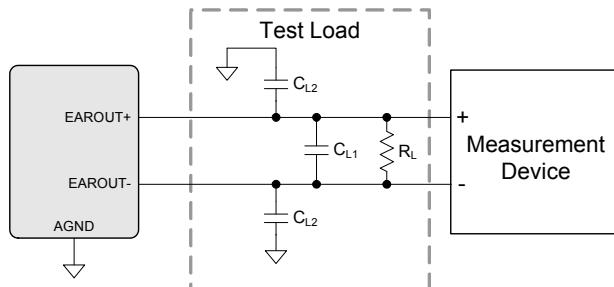
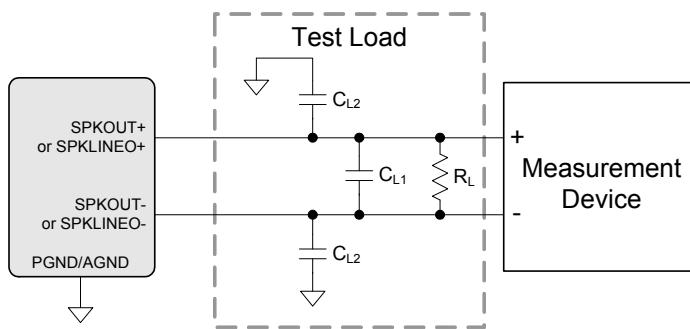

Figure 7. Ear Speaker Output Test Configuration
Figure 8. Speakerphone and Speakerphone Line Output Test Configuration
Test conditions (unless otherwise specified): Connections to the CS42L73 are shown in the "Typical Connection Diagram" on page 17; Input test signal is a 24-bit full-scale 997 Hz sine wave with 1 LSB of triangular PDF dither applied; GND = AGND = PGND = CPGND = DGND = 0 V; all voltages are with respect to ground (GND); VA = 1.80 V; TA = +25 °C; Measurement Bandwidth is 20 Hz to 20 kHz; Fs = 48 kHz (Note 10); ASP is used and is in slave mode with Fs_ext = 48 kHz; test loading is configured as per Figure 7 on page 30 (RL, CL1, and CL2 as indicated in the table below for RL(Min), CL1(Max), and CL2(Max)); Mixer Attenuation = 0 dB, Digital Volume = -2.5 dB, Digital Mute is disabled.
41. Refer to Figure 7 on page 30 and Figure 8 on page 32 to observe Ear-Speaker, Speakerphone, and Speakerphone Line-Output test configurations.
Test conditions (unless otherwise specified): "Typical Connection Diagram" on page 17 shows CS42L73 connections; Input test signal is a 24-bit full-scale 997 Hz sine wave with 1 LSB of triangular PDF dither applied; GND = AGND = PGND = CPGND = DGND = 0 V; all voltages are with respect to ground (GND); VA = 1.80 V, VP = 3.70 V; TA = +25 °C; Measurement Bandwidth is 20 Hz to 20 kHz; Fs = 48 kHz (Note 10); ASP is used and is in slave mode with Fs_ext = 48 kHz; test loading is configured as per Figure 8 on page 32 (RL, CL1 (= CL1(Max)) and CL2 (= CL2(Max)) as indicated in the table below); Mixer Attenuation = 0 dB, Digital Volume = -5.5 dB, Digital Mute is disabled, SPK_LITE_LOAD = 0b and 1b for RL = 8 Ω and 50 kΩ, respectively.
Test conditions (unless otherwise specified): Connections to the CS42L73 are shown in the “Typical Connection Diagram” on page 17; Input test signal is a 24-bit full-scale 997-Hz sine wave with 1 LSB of triangular PDF dither applied; GND = AGND = PGND = CPGND = DGND = 0 V; all voltages are with respect to ground (GND); VA = 1.80 V, VP = 3.70 V; TA = +25 °C; Measurement Bandwidth is 20 Hz to 20 kHz; Fs = 48 kHz (Note 10); ASP is used and is in slave mode with Fs_ext = 48 kHz; test loading is configured as per Figure 8 on page 32 (RL, CL1, and CL2 as indicated in the table below for RL(Typ), CL1(Max), and CL2(Max)); Mixer Attenuation = 0 dB, Digital Mute is disabled.